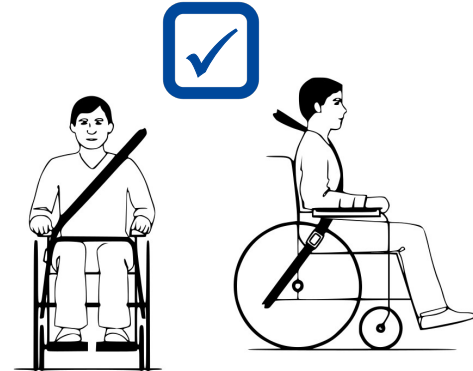

Figure 4 Proper belt-restraint fit
7. Make sure that the shoulder-belt restraints fit over the shoulders, see figure 4.